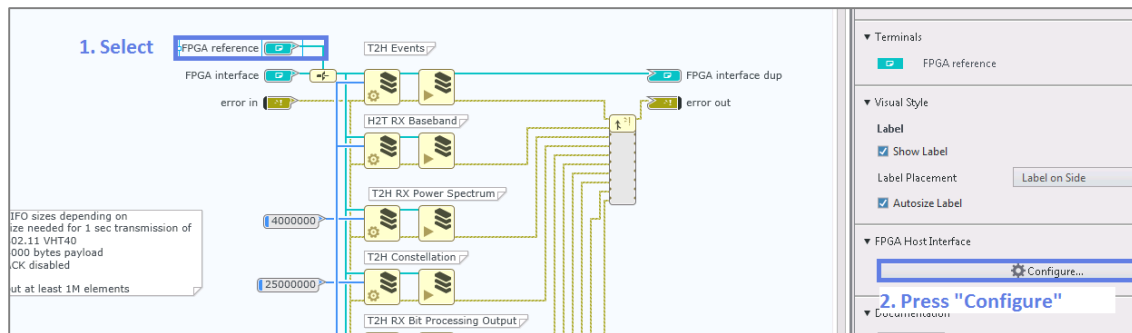

Figure 20 – “802.11 Setup DMA FIFOs.gvi” - Reconfigure FPGA type
3. Select the “FPGA reference” constant and click **Configure** on the right-hand rail as shown in Figure 20.